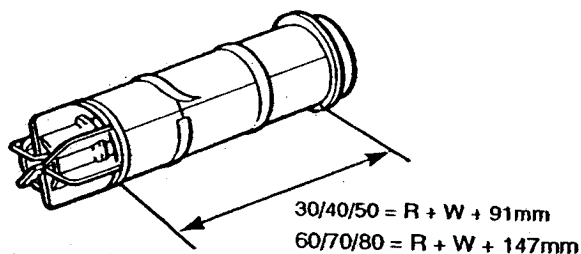

Fig. 43
8. Using the tape provided seal the joints of the three sections of the air duct, ensuring an overlap of at least 30mm (13/16 in) at each joint (Fig. 43).